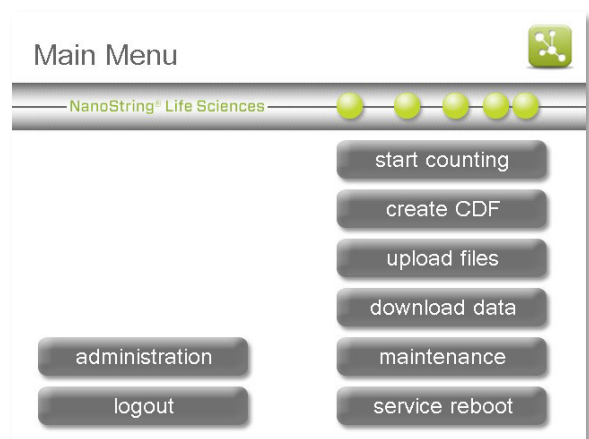

Figure 98: The Main Menu.
1. From the Main Menu (Figure 98), press **download data**.